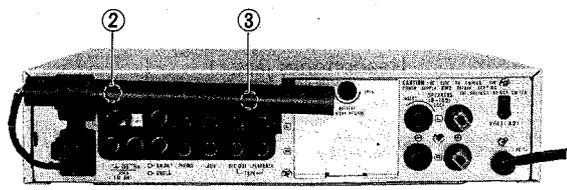
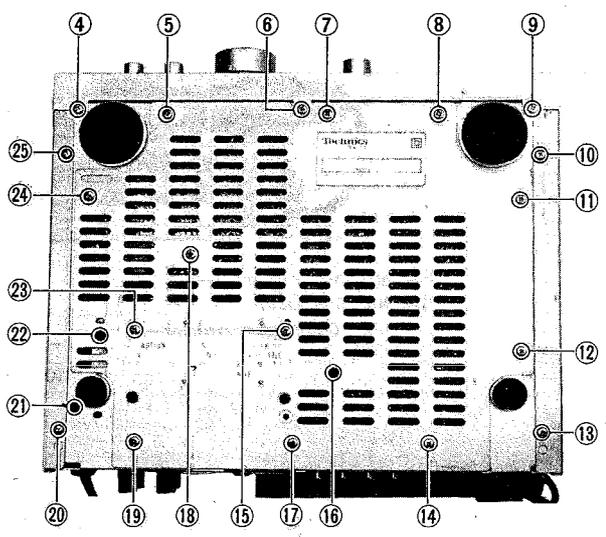
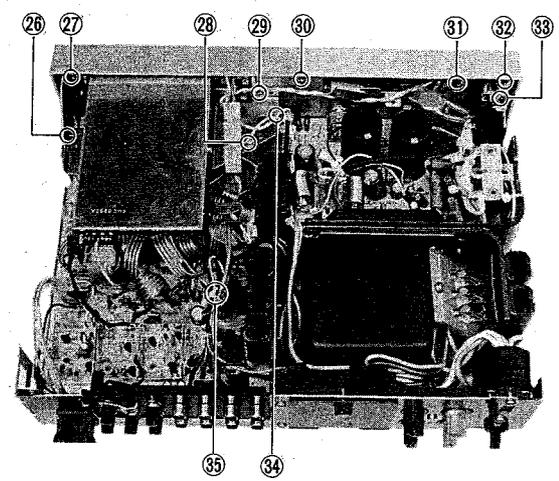

Fig. 2
Fig. 3
Fig. 4
3. Remove the 6 setscrews (②, ③ in Fig. 2 and ⑩, ⑬, ⑳, ㉕ in Fig. 3) used to fasten the cabinet cover.
5. Remove the 12 setscrews (⑤, ⑦, ⑧, ⑪, ⑫, ⑭, ⑮, ⑰, ⑱, ㉓, ㉔ in Fig. 3) used to fasten the bottom boardd.
7. Remove the 3 setscrews (㉖, ㉘, ㉙ in Fig. 4) used to fasten the synthesizer block.
8. Cut the 2 lead clampers. (㉚, ㉛ in Fig. 4)
11. Remove the 8 setscrews (④, ⑥, ⑨ in Fig. 3 and ㉗, ㉘ ~ ㉚ in Fig. 4) used to fasten the front panel and power switch.
14. Remove the 1 setscrew (㉞ in Fig. 3) used to fasten the fuse holder.
15. Remove the 2 setscrews (⑩, ⑪ in Fig. 3) used to fasten the heatsink.
4. Remove the 12 setscrews (5, 7, 8, 11, 12, 14, 15, 17, 18, 19, 23, 24 in Fig. 3) used to fasten the bottom board.